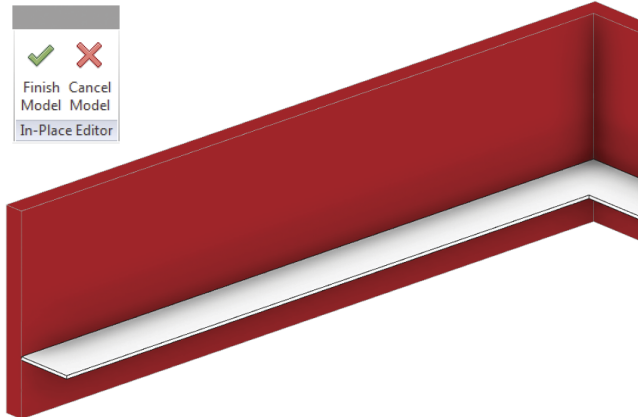

FIGURE 5.15 Complete in-place family
7. To return to the project and finish editing the in-place family, click Finish Model on the In-Place Editor ribbon panel (Figure 5.15).